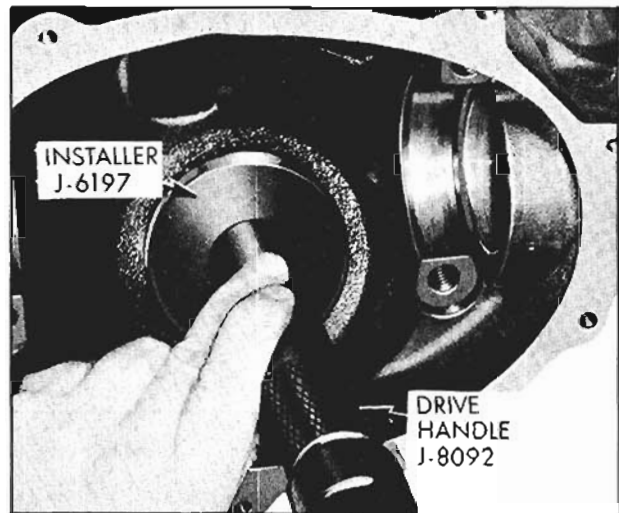

Fig. 10-116 Installing Rear Pinion Bearing Outer Race
1. If rear pinion bearing is to be replaced, install new outer race using Installer J-6197 with Driver Handle J-8092. (Fig. 10-116)